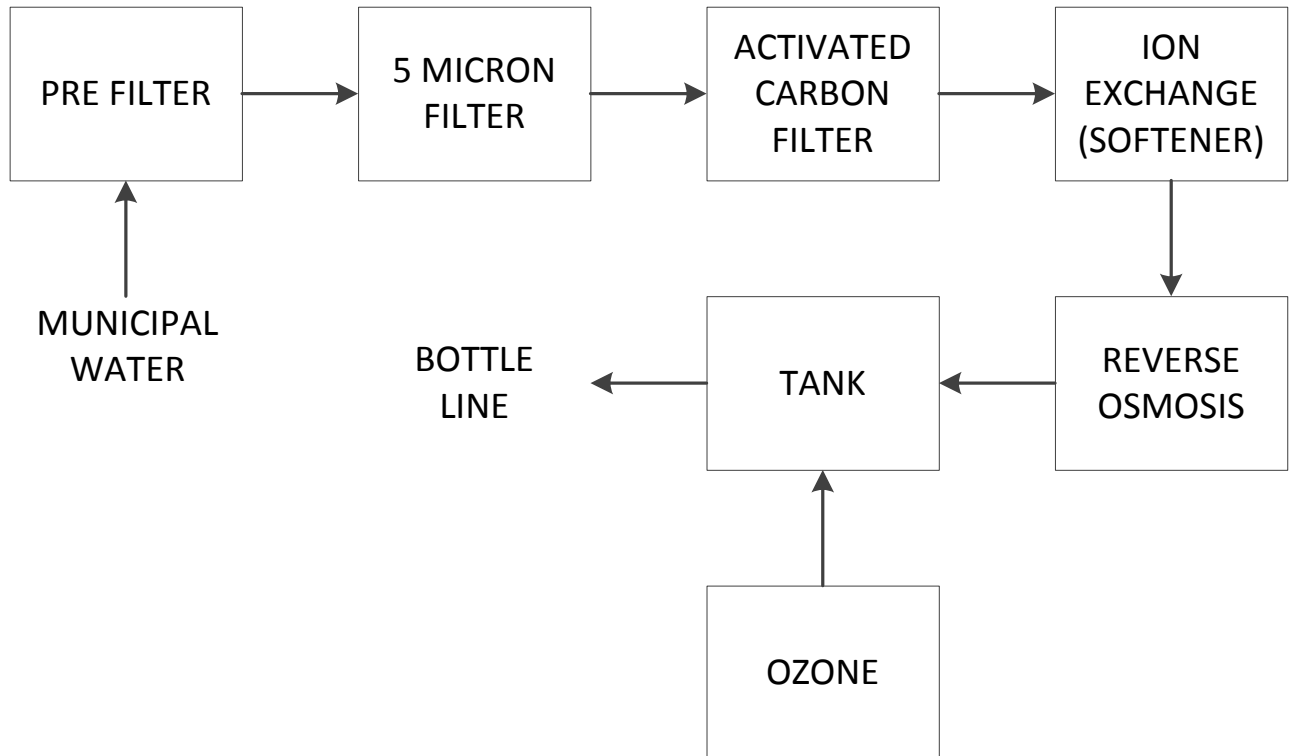

Figure 2. Flow diagram of a treatment system for bottled water.
Case 2 is more stringent than case 1 because bottled water should be bacteria-free. Many bottled water processors use ozonation to disinfect the water, since it has little effect on taste. Ultra-violet treatment may also be used and is frequently included as a backup measure. Reverse osmosis (RO) removes 99.9 percent of all viruses, bacteria and pyrogens and is more energy efficient compared to distillation processes. Drawbacks of RO include removal of “good” minerals, low speed and wasting of two to three parts of water for every part purified (Everpure, 2012). Figure 2 gives a flow diagram of a water treatment system for bottled water. It is important to place the carbon filter ahead of the RO unit to reduce fouling (by removing naturally occurring organic material) and to remove the disinfecting agent, which can chemically react with the membrane (Collentro, 2010).